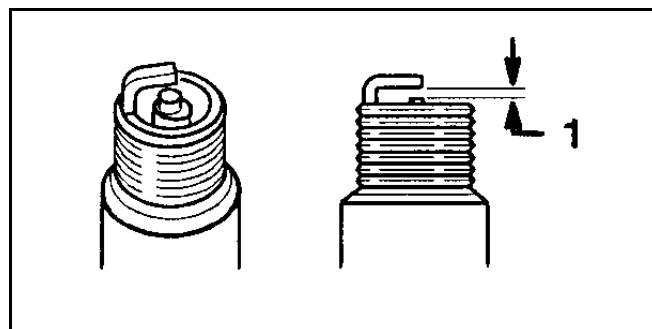

Figure 90
7. Set the spark plug gap (Figure 90) between the electrodes to 0.030 in. (0.76mm).